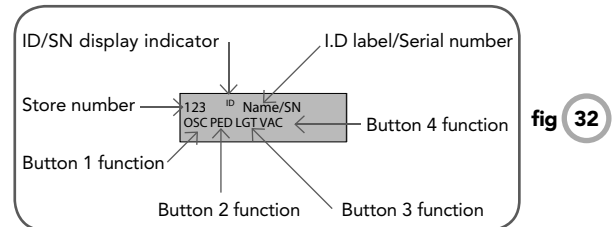

fig 32
DCB-05 can store up to thirty (30) transmitters in its memory. Each transmitter can be allocated an alphanumeric ID label up to eleven (11) characters in length and each button can be assigned to one of several control functions. The settings for a transmitter are represented in **(Fig. 32)**. It shows the transmitter's store number, ID label or serial number and the functions assigned to each of its four buttons. To toggle between ID/SN display, press UP/DOWN with the cursor on the ID/SN indicator. The procedures below code, delete, replace, edit and copy transmitter records.